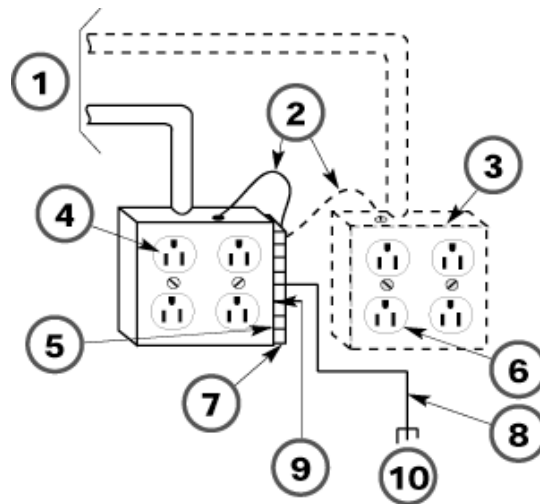

Figure 1-1. AC Grounding Requirements
- *Each control unit ground-screw terminal must be connected to the single-point ground bar by a #12 AWG or a #14 AWG solid copper wire. See Figure 1-1 on page 1-5 and Figure 2-6 on page 2-11.*